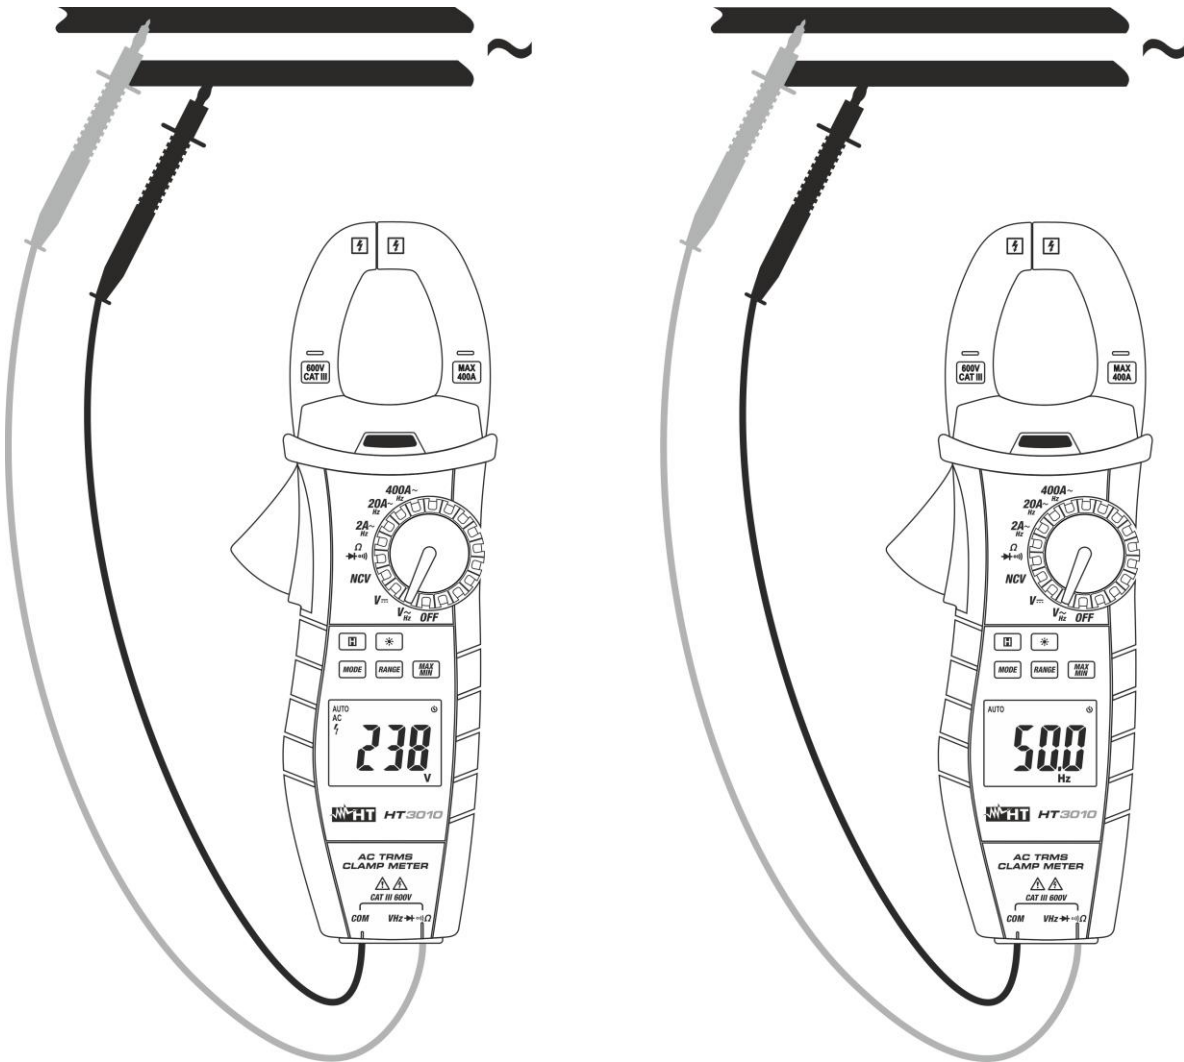

Fig. 5: Use of the instrument for AC Voltage and Frequency measurement
3. Position the test leads in the desired points of the circuit to be measured (see Fig. 5 – left part). The display shows the value of voltage.
5. Press the **MODE** key until the symbol “**Hz**” is displayed for measuring frequency (see Fig. 5 – right part)